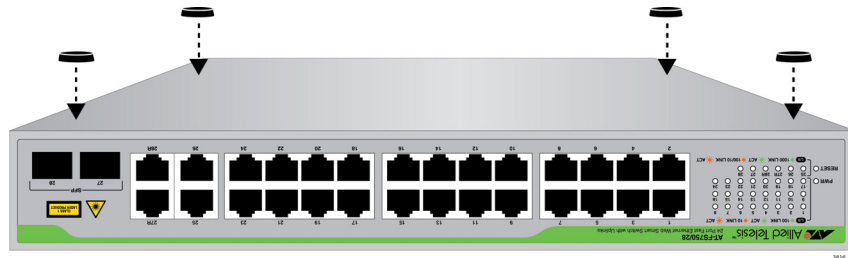

Figure 5. Attaching the Rubber Feet
3. Attach the four rubber feet to the bottom of the switch as shown in Figure 5.